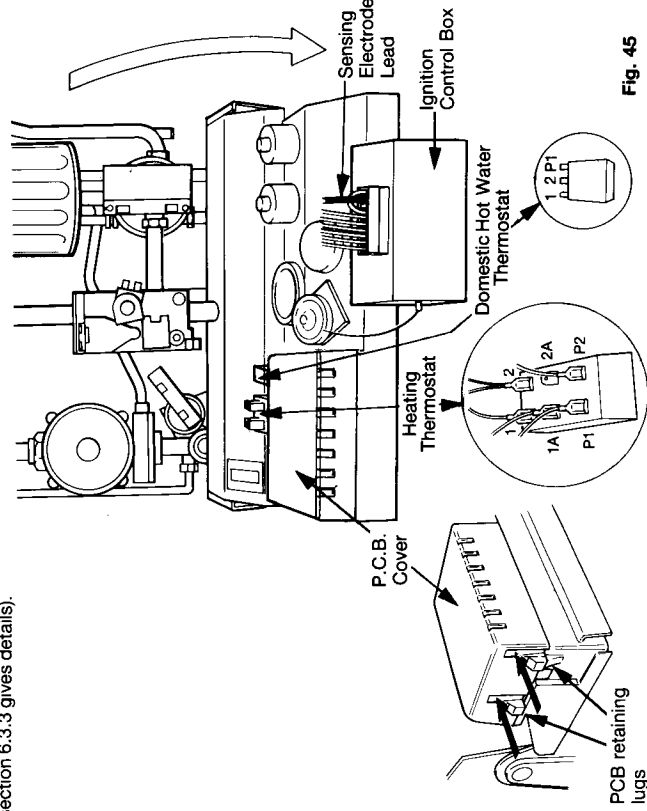

Fig. 45
- Refer to figs. 45 & 46
- 8.22.28** Refer to figs 45 & 46 to ensure correction location of thermostat and push-on wiring tabs.
- 8.22.36** Refer to fig. 45 to ensure correct location of thermostat and push on wiring tabs. Orange wire to terminal P1 Red wire to terminal 2
Refer to fig. 45
**8.22.43** Press in the sides of the printed circuit board cover (fig. 45) to release retaining clips and lift cover off.
Remove wire on No 2 terminal of Hot Water stat replace on No 1 terminal (see fig. 45).